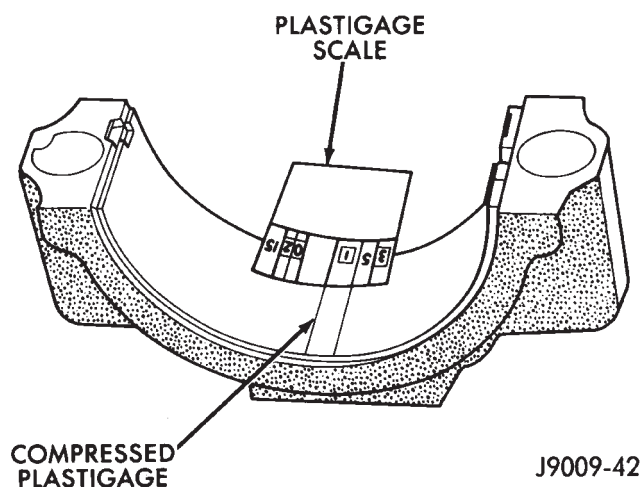

Fig. 19 Measuring Bearing Clearance with Plastigage
(5) Install the lower bearing insert in the bearing cap. The lower insert must be dry. Place strip of Plastigage across full width of the lower insert at the center of bearing cap. Plastigage must not crumble in use. If brittle, obtain fresh stock.
(6) Install bearing cap and connecting rod on the journal and tighten nuts to 45 N·m (33 ft. lbs.) torque. **DO NOT** rotate crankshaft. Plastigage will smear, resulting in inaccurate indication.
(7) Remove the bearing cap and determine amount of bearing-to-journal clearance by measuring the width of compressed Plastigage (Fig. 19). Refer to Engine Specifications for the proper clearance. **Plastigage should indicate the same clearance across the entire width of the insert. If the clearance varies, it may be caused by either a tapered journal, bent connecting rod or foreign material trapped between the insert and cap or rod.**